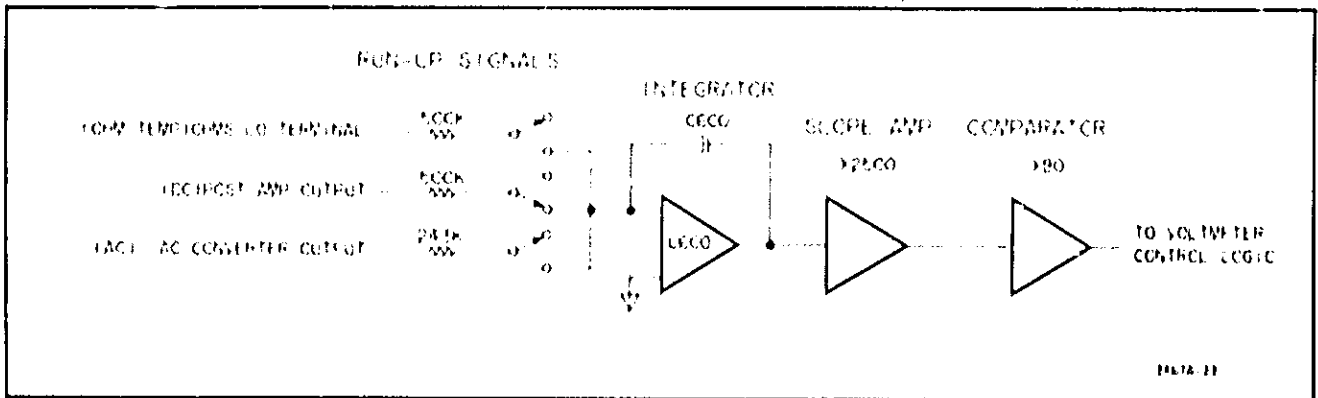

Figure 4-8. The A-To-D Converter Section.
**4-32. Run-Up (Refer to Figure 4-8).** During the Run-Up interval, the input signal charges the Integrator Capacitor for a fixed length of time. This requires that all inputs be processed into a DC voltage which can be used in Run-Up as the charging voltage. The Ohms Converter and true RMS AC Converter achieve this. The proportional DC voltage is applied to a Run-Up resistor in the Integrator Hybrid for approximately 100 ms. The resulting charge on A9C600 is proportional to the input. At the end of Run-Up the processed DC voltage is removed and the measurement cycle begins the Hold interval.